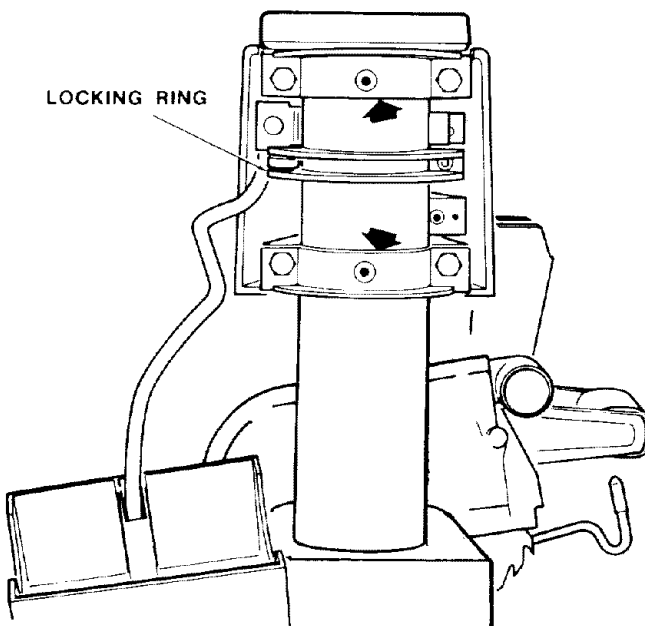

Fig. 121 - Bearing Points Where Arm Attaches to Column Tube
- Apply a few drops of oil along the *swivel index pin* and the *bevel index pin* only if the pins have a tendency to stick. Swivel to in-rip or out-rip for easy access to the *swivel index pin*. Bevel to 45° and *bevel index pin* can be easily accessed behind the *yoke* as illustrated. (Figure 121)
- Lubricate the bearing points where the *arm* attaches to the *column tube*. With a #2 Phillips screwdriver remove two screws and the rear arm cover for access to these points. Be careful not to get lubricant on the *locking rings* as this will adversely affect the miter locking function. (Figure 121)